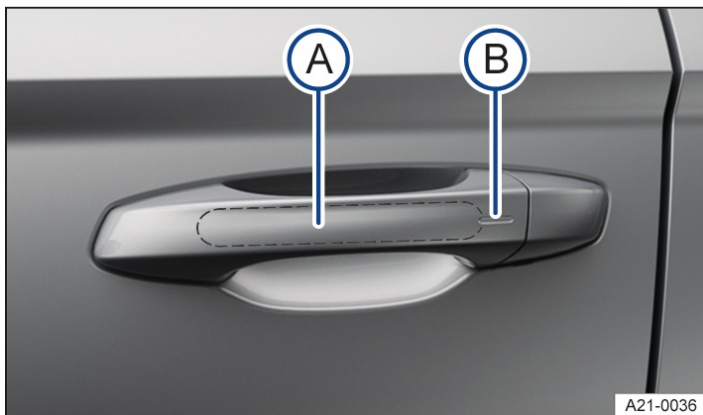

Fig. 2 In door handle: sensors.
1. Touch the sensor → *fig. 2* (A) on the inside of the driver or passenger door handle.
3. Touch the sensor → *fig. 2* (B) on the outside of the driver or passenger door handle.
2. Then, within five seconds of locking the vehicle, touch the sensor on the outside of the door handle once → *fig. 2* . Do not grasp the door handle during this process.
1. Press and hold the sensor on the driver or passenger door handle for a few seconds → *fig. 2* .